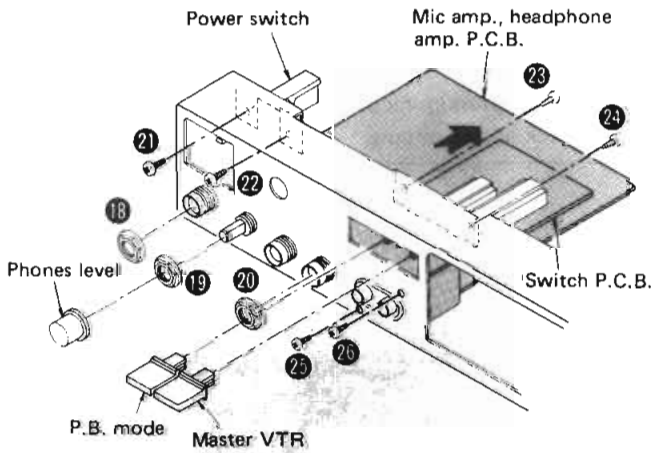

Fig. 6
2. Remove the jack and volume nuts (Fig. 6 : 18 ~ 20).
3. To remove the power switch, remove the setscrews (Fig. 6 : 21 , 22).
2. Remove the 2 buttons and setscrews (Fig. 6 : 23 , 24) of the switch board.
3. Remove the 2 setscrews (Fig. 6 : 25 , 26) of video input/output terminals.